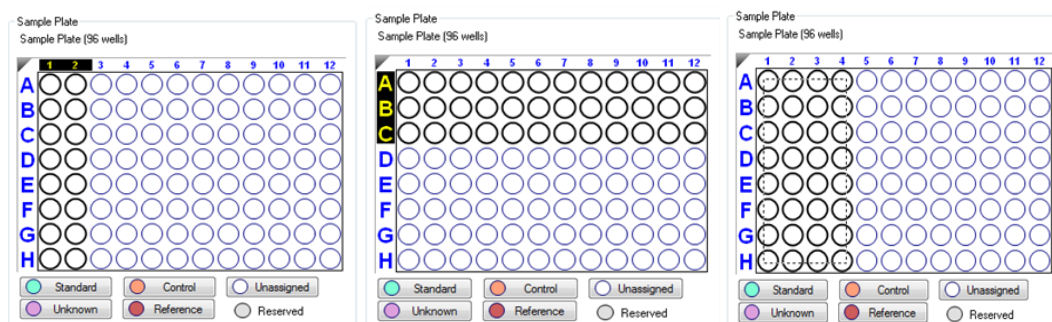

Figure 5-3: Selecting Wells in the Sample Plate Map
- Click a column header or select adjacent column headers by click-hold-drag (Figure 5-3, left). To select non-adjacent columns, hold the **Ctrl** key and click the column header.
- Click a row header or select adjacent row headers by click-hold-drag (Figure 5-3, center).
- Click a well or draw a box around a group of wells (Figure 5-3, right).
2. Click the **Standard** button below the **Sample Plate Map** (see Figure 5-3), or right-click and select **Standard**. The standards are marked in the plate map and the **Sample Plate Table** is updated.